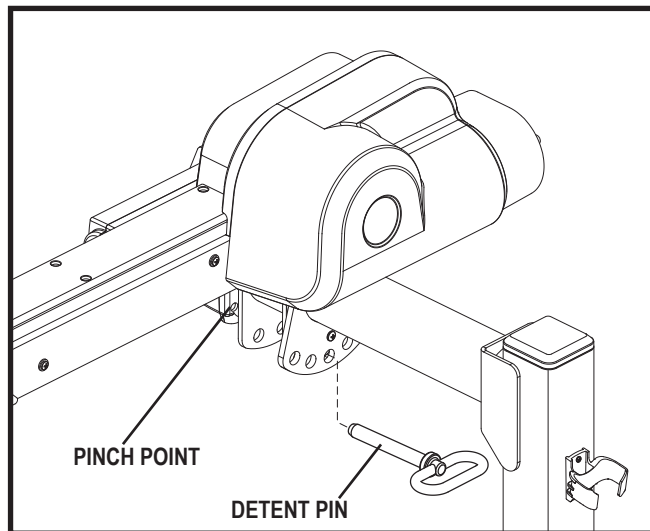

Figure 4. Securing the Boom Arm
NOTE: The angle of the boom arm can be adjusted to accommodate certain height limitations. See figure 4.
2. Remove the detent pin located between the boom arm and the upper post. Guide the boom arm upward or downward to the desired position. **See figure 4.**
3. Reinsert the detent pin into the top of the upper post to secure the boom arm in place. **See figure 4.**